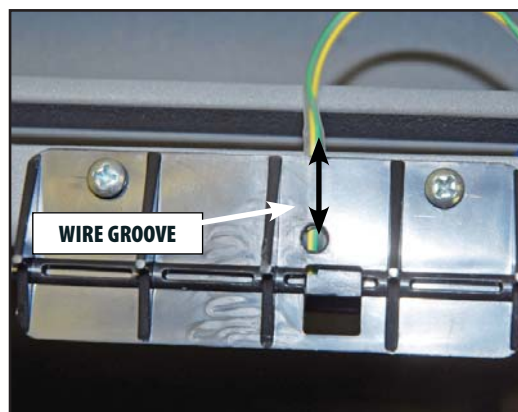

FIGURE 6.33
6. Lift the Harness and the Elevation Foot Switch Connector out of the Runner and separate the Elevation Foot Switch from the Harness. Refer to **Figure 6.33**.
7. Reverse the steps above for installation of the Elevation Foot Pedals, making sure that the Wires are in the cutouts or grooves in the plastic base to keep the Wires from being pinched when the Elevation Foot Pedals are tightened down. Refer to **Figure 6.33**.